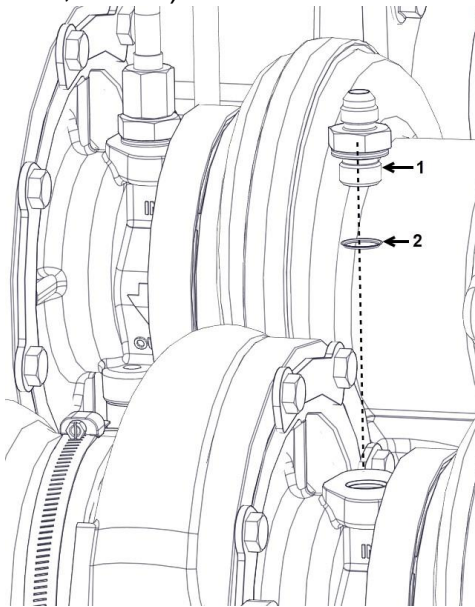

Figure 30. Oil Inlet Valve Assembly
7. Place all washers (Figure 30, Item 2) into the oil inlet hole. Insert and torque down all oil inlet valves (Figure 30, Item 1) to 21 ft/lbs.